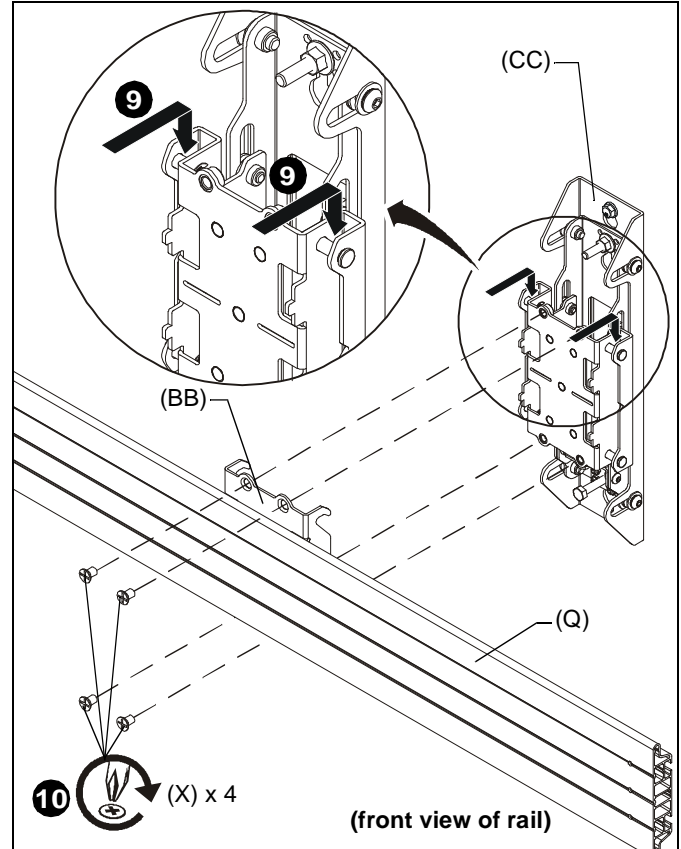

Figure 16
9. Hook height adjust plates (BB) over wall uprights (CC or DD). (See Figure 16)
10. Fasten mounting rail (Q) to wall uprights using four 5/16 x 1/2" Phillips flat head screws (X) through height adjust plate (BB) and into wall uprights (CC or DD) and tighten all screws. (See Figure 16)